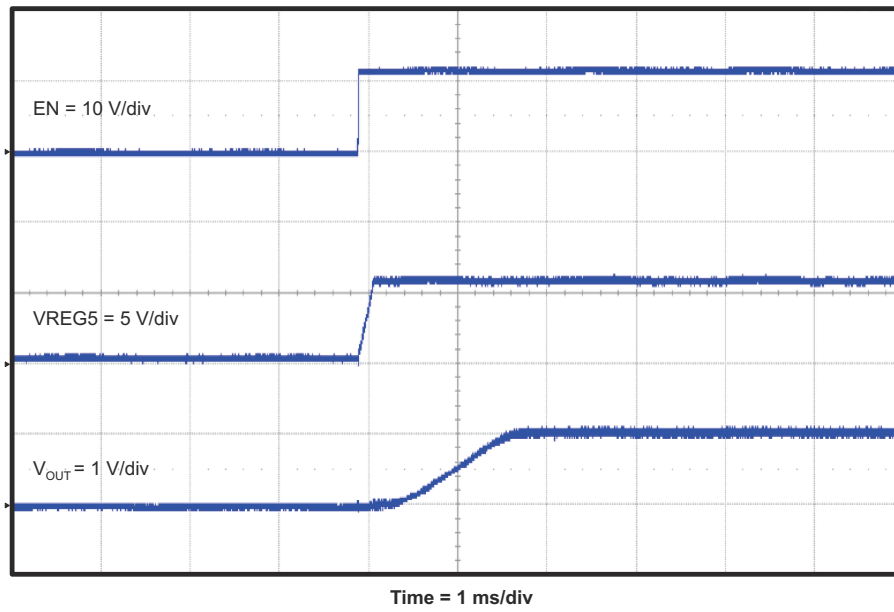

Figure 4-9. TPS54525EVM-608 Start-Up Relative to EN
The TPS54525EVM-608 start-up waveform relative to enable (EN) is shown in Figure 4-9.